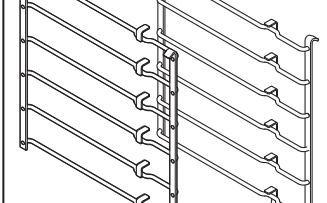

Fig. 2.20
- 4 flat cooking shelves (**Fig. 2.20**)